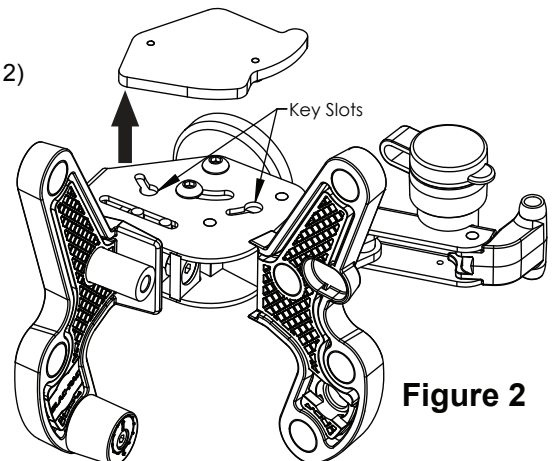

Figure 2
3. Lift the Top Security Plate straight up and separate it from the unit (Figure 2)
5. Note the Key Slots on the top side of the frame (Figure 2). These slots are where you will locate the placement when re-installing the Top Security Plate.
4. With the **BLAC-RAC**® in the open position (Figure 2), attach the Top Security Plate to the top of the frame. The Top Security Plate is placed over and through the "keyslots" on the top of the frame, and then slid to the left as far as it will go.